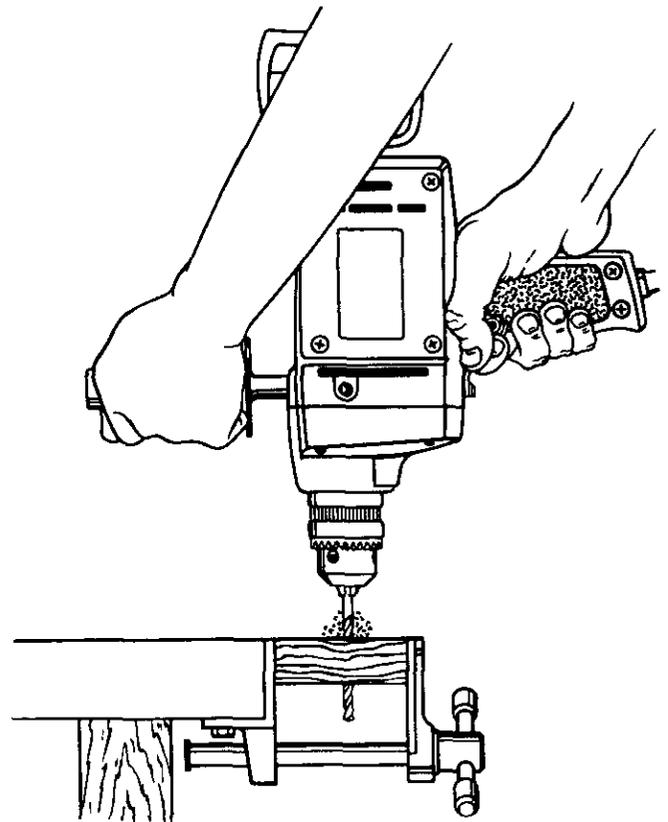

Fig. 9
See Figure 9.
- Move the drill bit into the workpiece applying only enough pressure to keep the bit cutting. Do not force your drill or apply side pressure to elongate a hole. Let your drill and bit do the work. See Figure 9.